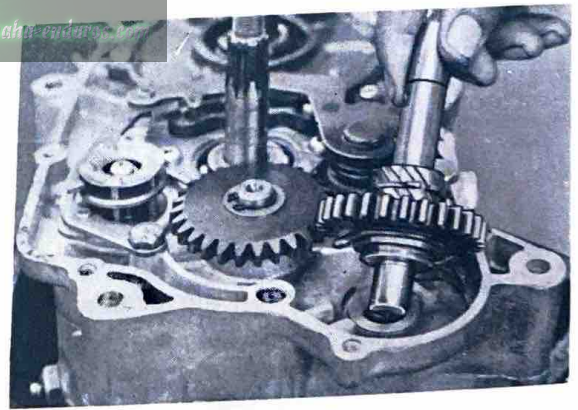

Fig. 3-11-7
- c. Remove the kick starter assembly in the manner as shown in right. (Fig. 3-11-7)
(Fig. 3-11-7)